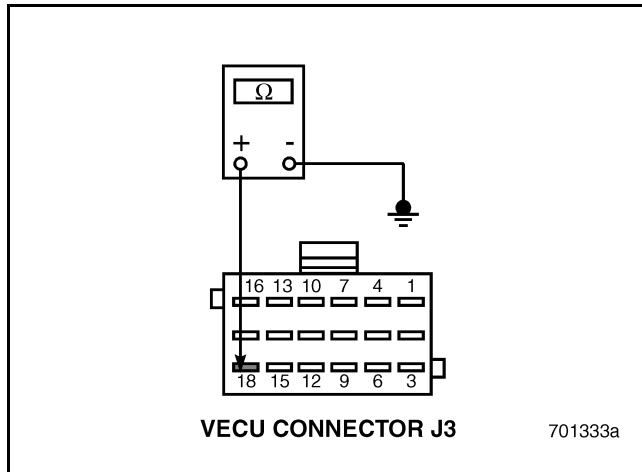

Figure 717
3. Check for continuity between VECU connector J3 pin 18 and a good ground (see Figure 717).